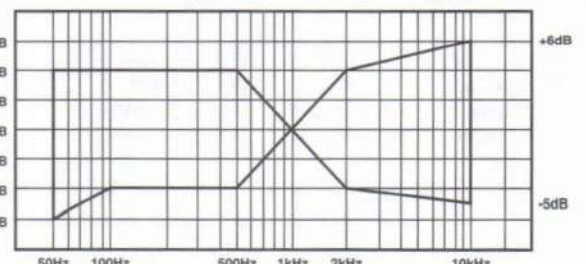

Fig. 11
5. Repeat steps 2 to 4 for each tape and confirm that the output for each is within the range of the overall frequency response shown in Fig. 11.